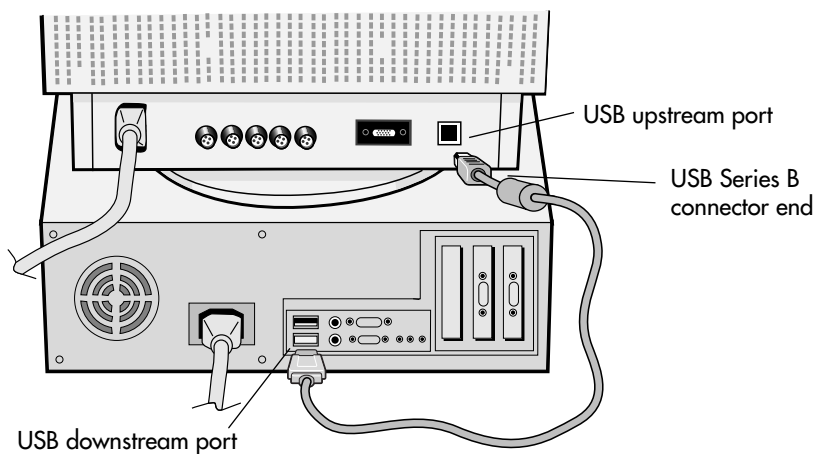

Figure 1
1. Using the supplied USB cable, connect the USB Series B connector end to the USB upstream port on the monitor (**Figure 1**).
2. Connect the other end of the supplied cable to the USB downstream port on the computer (or to a USB Hub attached to the computer (**Figure 1**).